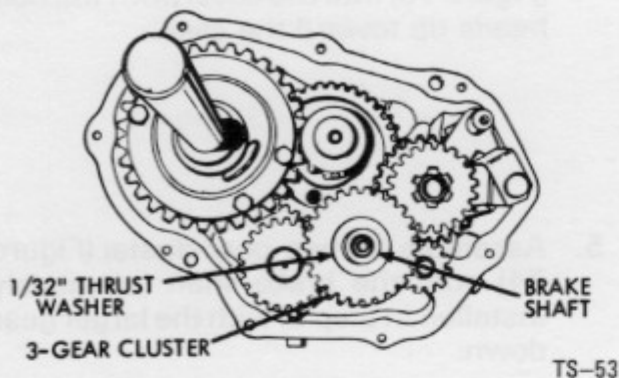

Figure 76 - Three Gear Cluster
11. Install the three-gear cluster (Figure 76) onto the brake shaft with the smallest gear down toward the spacer. Then place a 1/32" x 7/8" thrust washer on the brake shaft between the larger gear and the case.